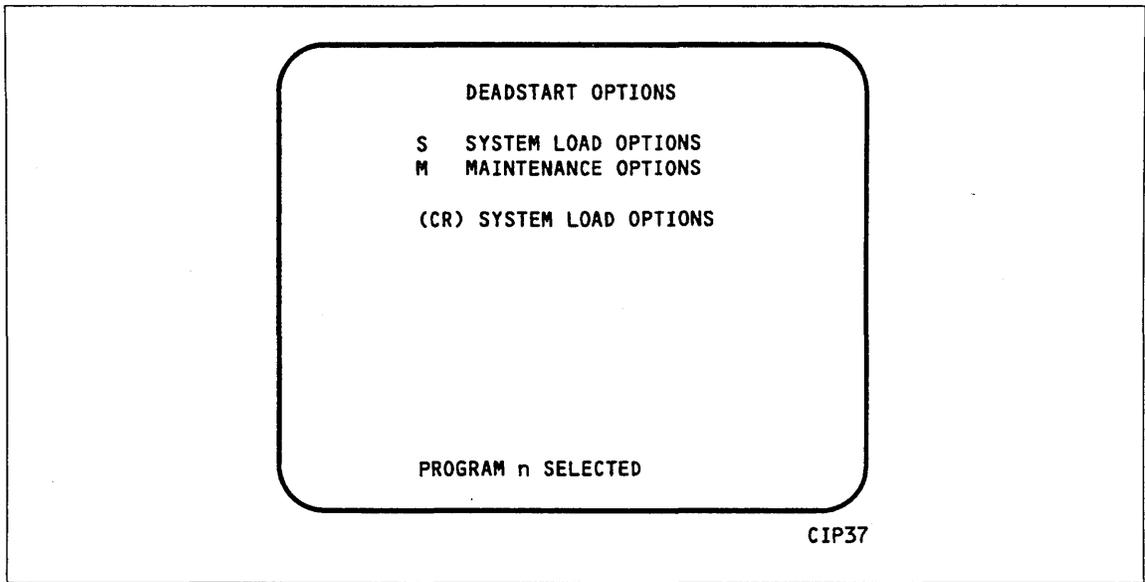

Figure 3-2. Deadstart Options Display
- ___ 1. Complete one of the following steps to to bring up the DEADSTART OPTIONS display shown in figure 3-2.¹